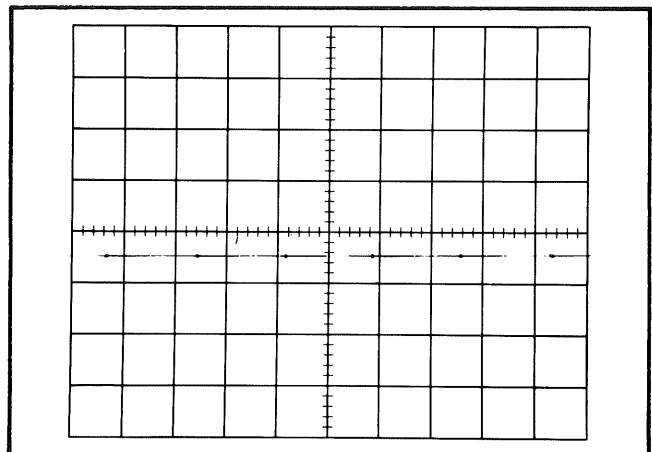

Fig. 15. Intensity modulated display. Sweep rate 10 milliseconds/division.
- f. Check the display for intensified dots (see Fig. 15). It may be necessary to turn the INTENSITY control counter-clockwise slightly to see the dots.